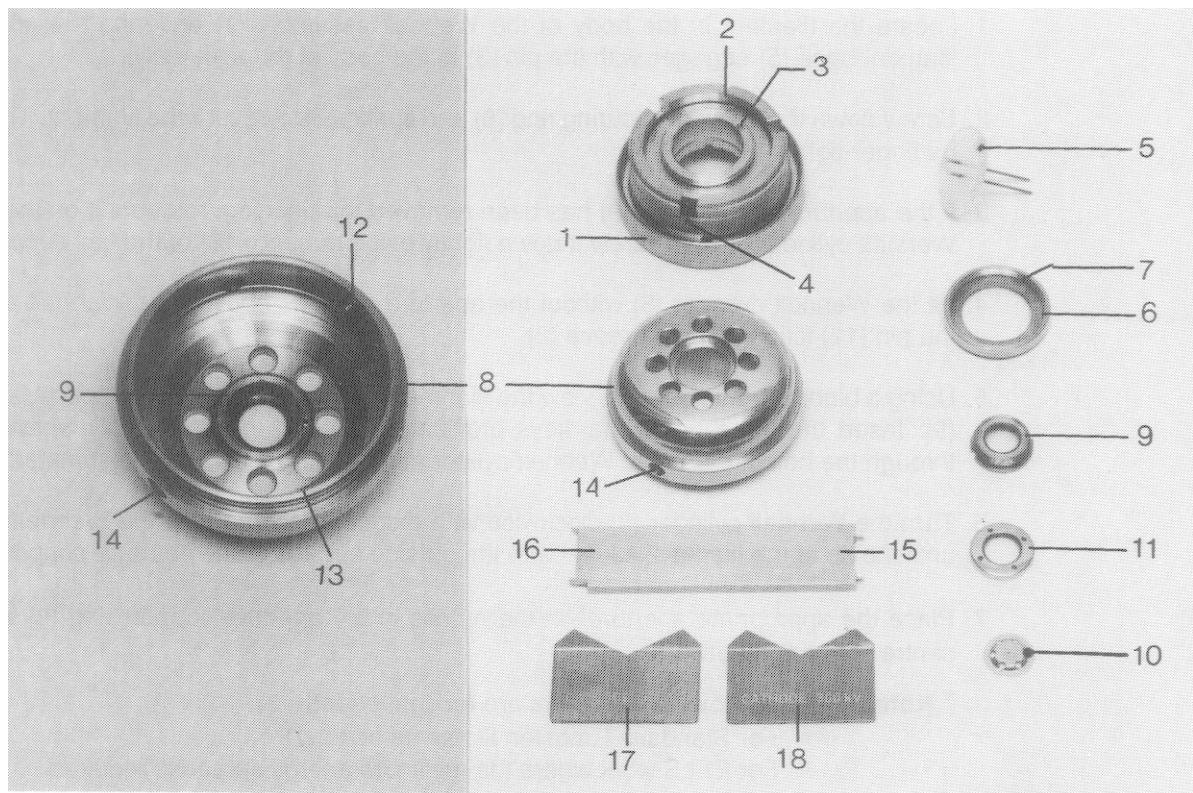

Fig. 4.11, Wehnelt assembly - Component parts and key for mounting and dismounting the aperture
4.4.5 Dismounting the filament and Wehnelt aperture (Fig. 4.11)
Remounting the filament and Wehnelt aperture (Fig. 4.11)
Setting the position of the filament (Figs. 4.11, 4.12 and 4.13)